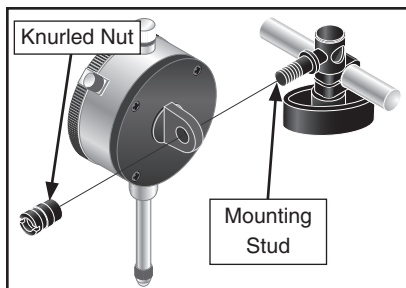

Figure 6. Dial Indicator installation.
2. Unscrew and remove the knurled nut and flat washer from the mounting stud, and insert the threaded end of the stud into the flange on the back of the dial indicator, as shown in **Figure 6**.